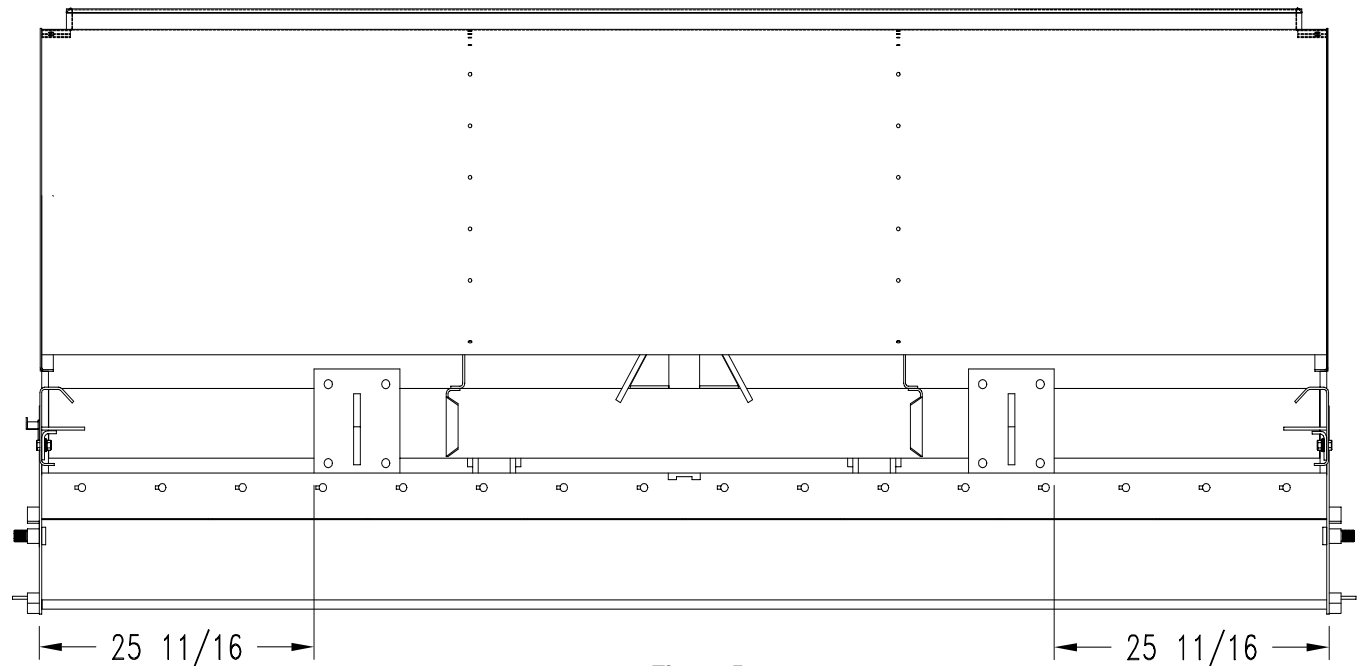

Figure 5 13269
- 4. Install Center Mounts (#6) at approximately the locations shown in Figure 5 using two u-bolts (#7), 3/4" washers (#8) and 3/4" flange nuts (#9) on each support.